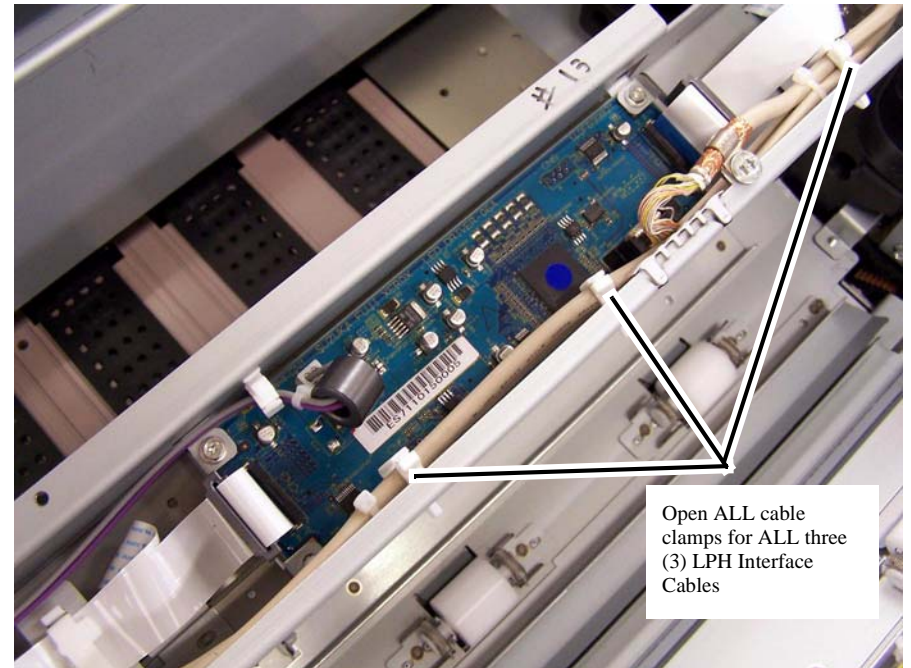

Figure 2 Repeat the removals shown in the figure for ALL (3) LPH Interface Cables
6. Disconnect the LPH Interface Cables (3) from the LPH1, LPH2, and LPH3 Driver PWBs.
- a. Open ALL of the cable clamps that secure the LPH Interface Cables (3) to the LPH Assembly (Figure 2).